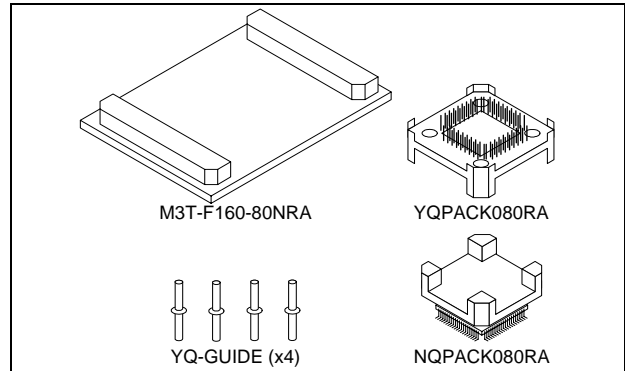

Figure 1 Package components of the M3T-F160-80NRA
2. Package Components (See Figure 1)